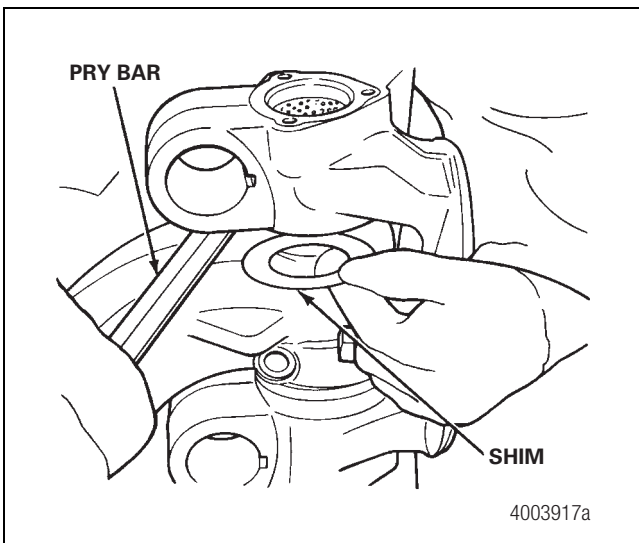

Figure 23
- C. Place a pry bar between the steering arm boss and the axle beam. Lift the knuckle and slide the shim pack between the top of the axle center and the knuckle. Figure 23.